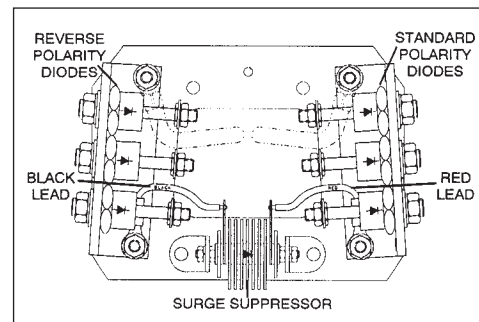

Figure 6-34
**CAUTION** Three forward polarity and three reverse polarity diodes are used. Be sure you have the correct part installed in the correct location. The surge suppressor is polarized. Observe polarity markings when changing the surge suppressor (figure 6-34).